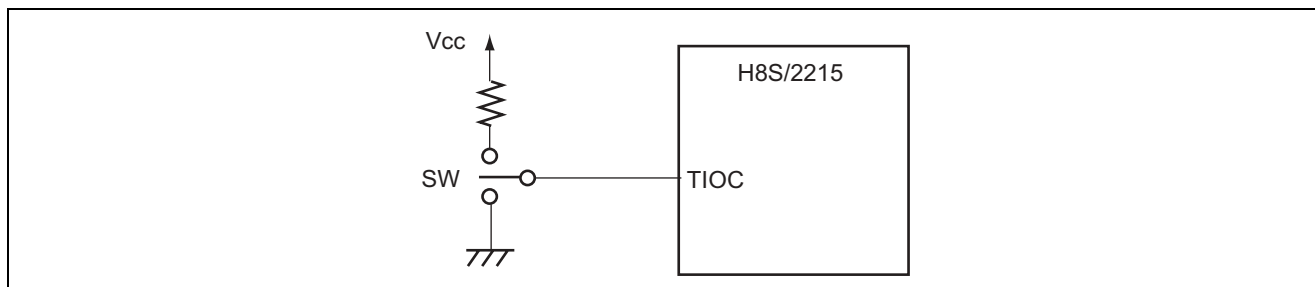

Figure 1 Example of Input for TPU Input Capture Function
- As shown in figure 1, by using the input capture function of the 16-bit timer pulse unit, the TCNT value is transferred to TGR when an edge signal is input from the TIOCA pin (35 pin).